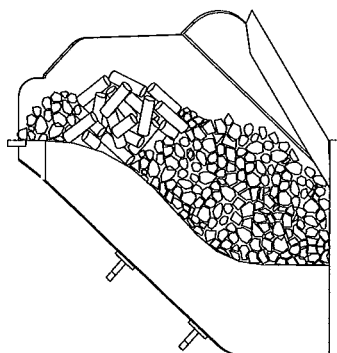

Fig. 18
4. **Add more DRY coal** around the starting material but not covering it. See Figure 18. Turning the knob passed the "OFF" position starts the combustion blower and makes the stove ready to light. The distribution blower and feed motor will also run for one minute or less just to let you know they are operational.